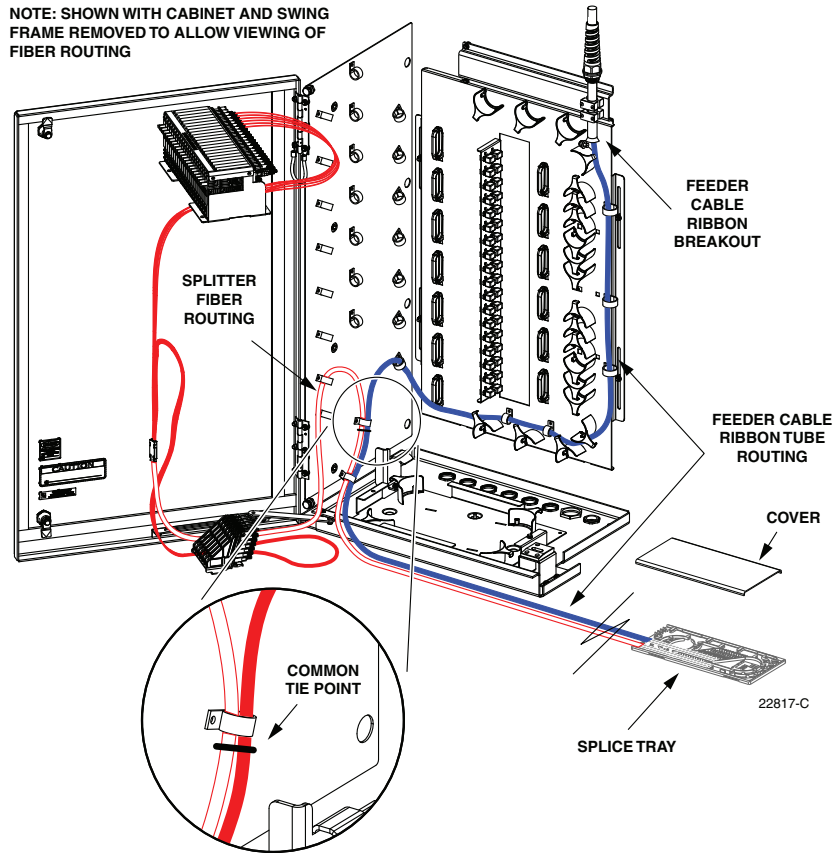

Figure 22. Feeder Fiber Routing to Splice Tray - Ribbon Cable
4. Beginning at the feeder cable ribbon breakout point shown in Figure 22, route the protective tube or ribbon subunit to the intersect point with the splitter fibers.